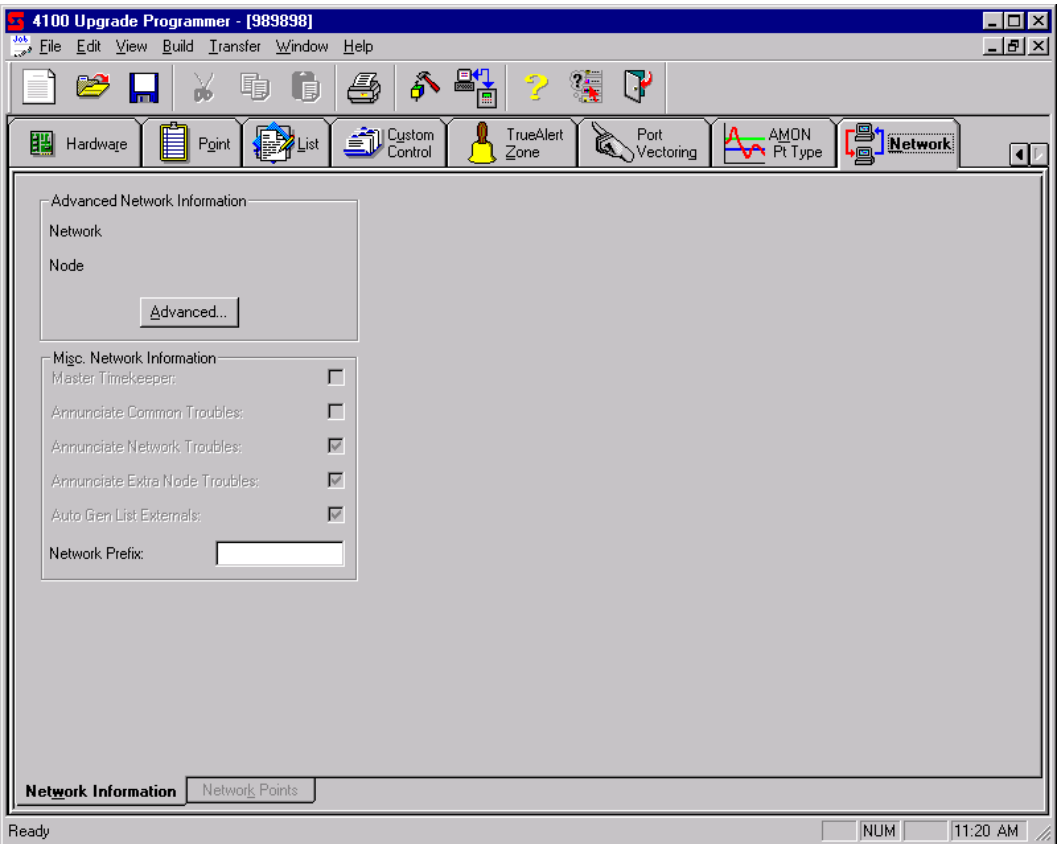

Figure 13-4. Network Tab, Showing Network Information
- 1. Click on the Network tab, shown in the upper right corner of Figure 13-4.